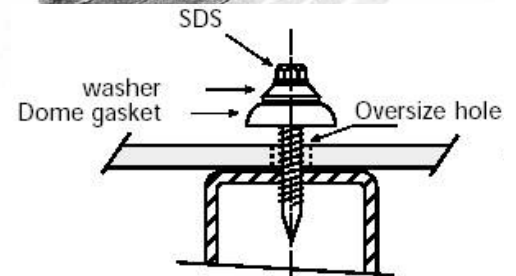

Figure 15. Basic Screw Fastening with Separate washers. Under the Glazing a Thin EPDM Strip Padding
- 2) Each bolt/screw would be equipped with a $\varnothing 30-40\text{mm}$ rigid metal (stainless/aluminum) washer, with a compatible shaped soft EPDM gasket under the bolt head, on top side of the glazing, to distribute the bolt's pressure and pad the fastener's surrounding. (fig.15)